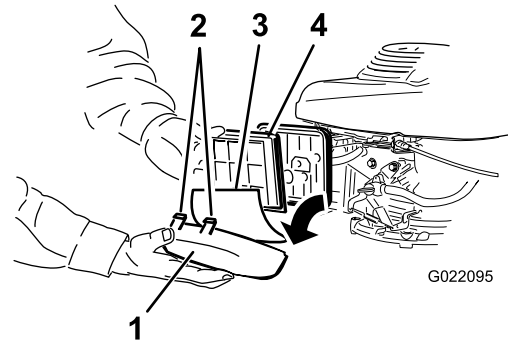

Figure 25
4. Remove the cover, and remove the foam pre-cleaner from the cover (Figure 25).
6. Remove and inspect the paper filter (Figure 25).
7. Install the foam pre-cleaner into the air-cleaner cover Figure 25.